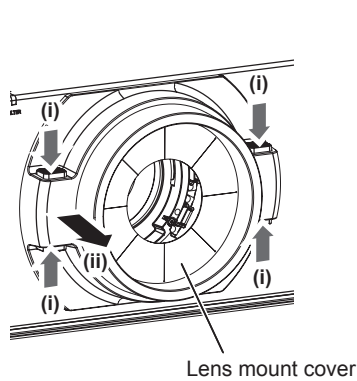

Fig. 1
**1) Remove the lens mount cover. (Fig. 1)**